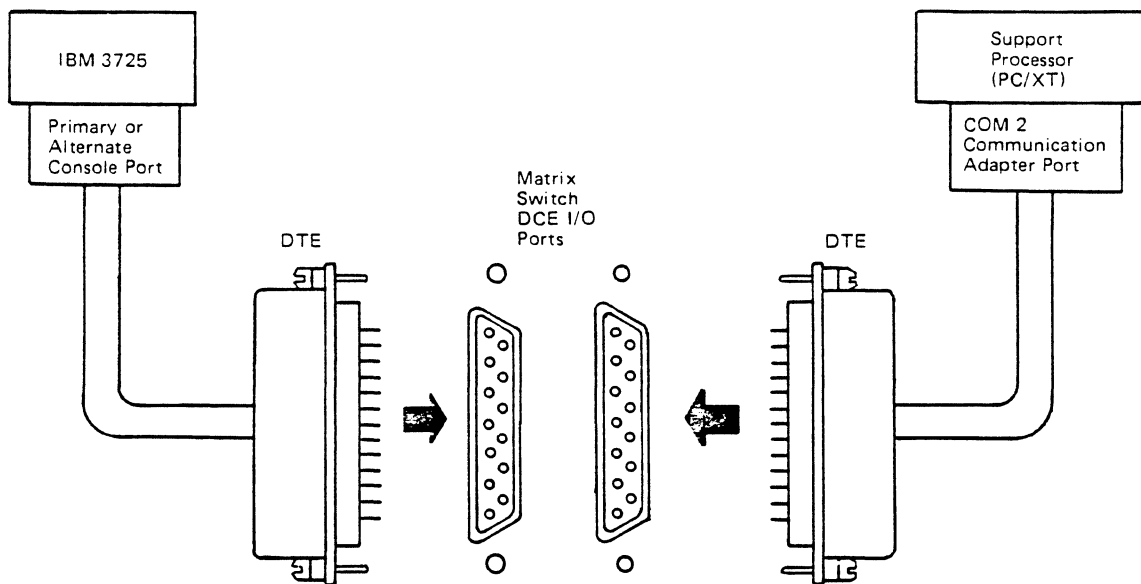

Figure 8-3. IBM 3727 Console Emulation Connection
1. Connect the primary (PN 6431054) or alternate (PN 6431195 or PN 6531055) cable to the primary (PRI) or alternate (ALT) maintenance and operator subsystem (MOSS) port on the communication controller according to the cabling forms. (See Figure 8-3.)